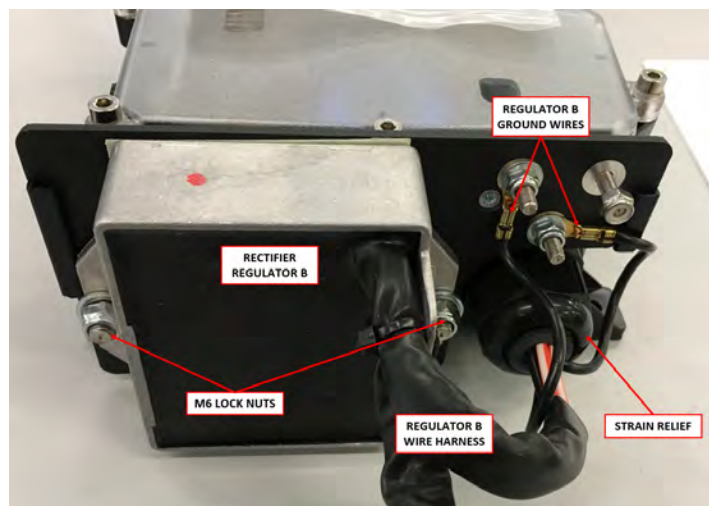

FIGURE 16-62
- For Regulator B, remove two black ground wires (7). See Figure 16-62.